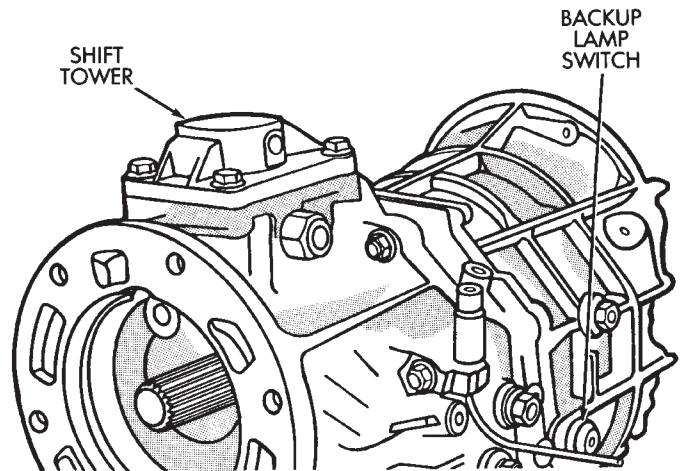

Fig. 50 Installing Shift Tower And Backup Lamp Switch
(19) Install shift tower and new gasket on housing (Fig. 50). Tighten tower bolts to 18 N·m (13 ft. lbs.) torque.
(20) Install new metal o-ring to the backup lamp switch.
(21) Install backup lamp switch (Fig. 50). Tighten switch to 37 N·m (27 ft. lbs.) torque.
(22) Install new seal in adapter/extension housing.
(23) Install vehicle speed sensor, if necessary.
(24) Install clutch housing, release bearing, release fork and retainer clip.